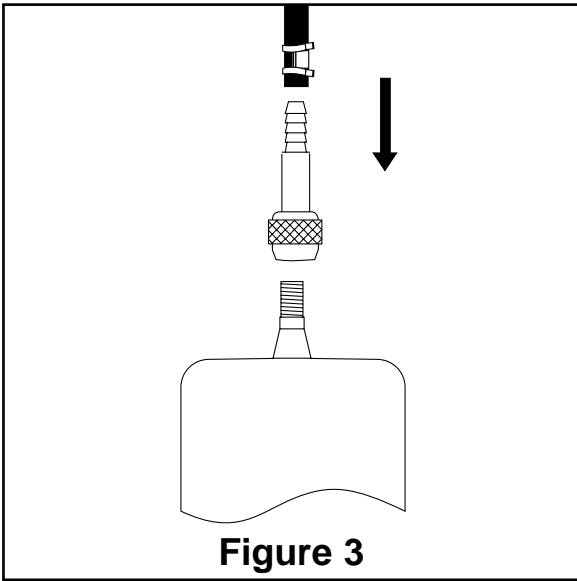

Figure 3
- A. Attach straight barbed fitting onto valve body attached to air cylinder and secure. Tighten on additional turn using 3/8" wrench (Figure 3).
- H. Slide air line clamp onto air line. Push the air line onto the straight fitting attached to stem covering all the barbs (Figure 3).
- A. Attach straight barbed fitting onto valve body attached to air cylinder and secure. Tighten one additional turn using 3/8" wrench (Figure 3).
- F. Push the air line onto the straight fitting, covering all the barbed section. With pliers slide the air line clamp forward until it fully covers barbed section (Figure 3).
Stability translates into safety and should be the priority, meaning the driver may need to sacrifice a perfectly level and comfortable ride. Stability issues include roll control, bounce, dive during braking and sponginess (fig. 3). Tuning out these problems usually requires an increase in pressure.